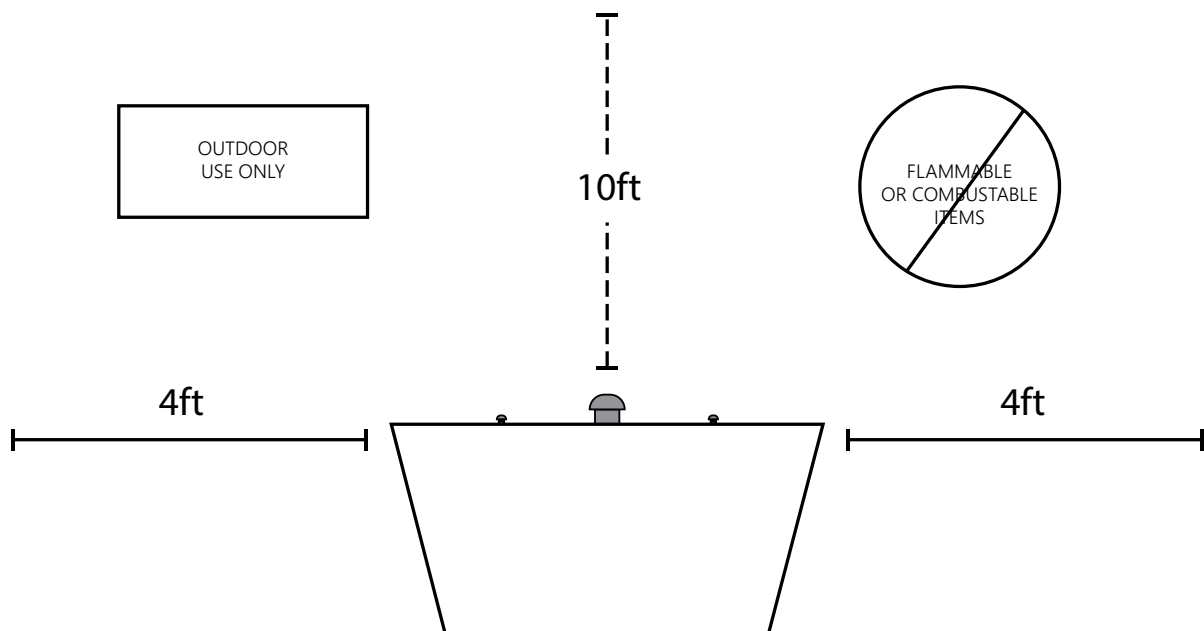

FIGURE 1: Adequate Clearance
- Recommended Clearances: Sides 4 ft / Top 10 ft: Combustibles/structures not to be closer than 4' on the horizontal plane, 10' overhead. (FIG 1).